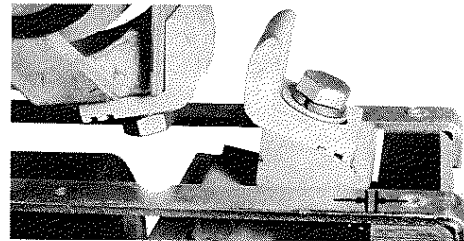

Figure 4
1. With all power removed, check that the mechanical interlock allows the contact arm (21) of either contactor to reach its limit of travel, either completely closed or completely open, without binding.
2. Hold the contact arm of the left contactor fully closed and push closed the contact arm of the right contactor until stopped by the mechanical interlock. Check that there is a gap of at least 1/32" but not more than 1/16" between the inside edge of the stop bracket (42) and the back surface of the auxiliary arm (12) (Fig. 4).